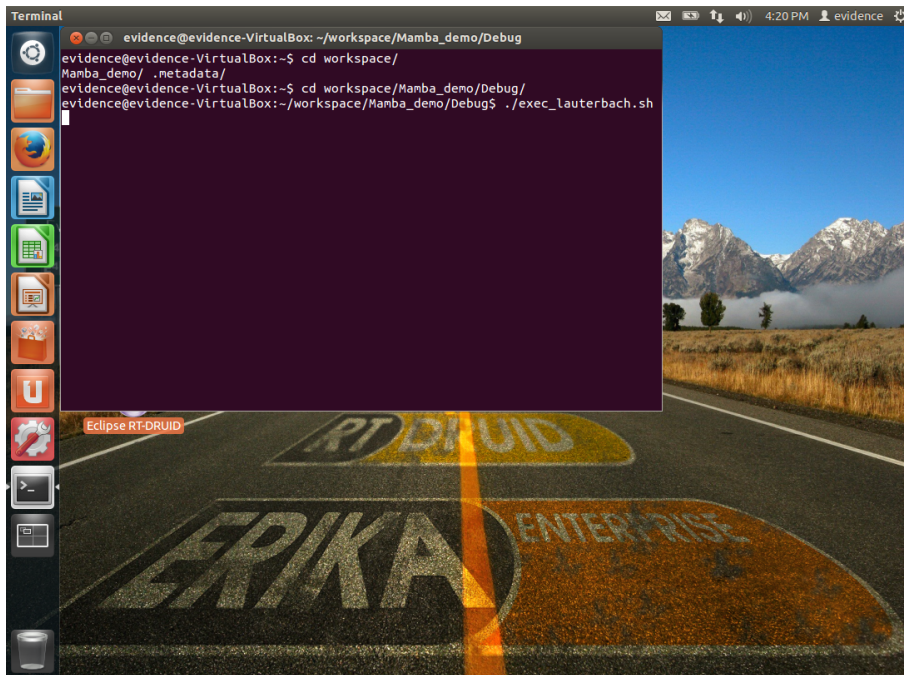

Figure 4.2: Change directory and run the `exec_lauterbach` script to launch TRACE32.
2. Change directory into the Debug directory created by RT-Druid when compiling the demo (see Figure 4.2).